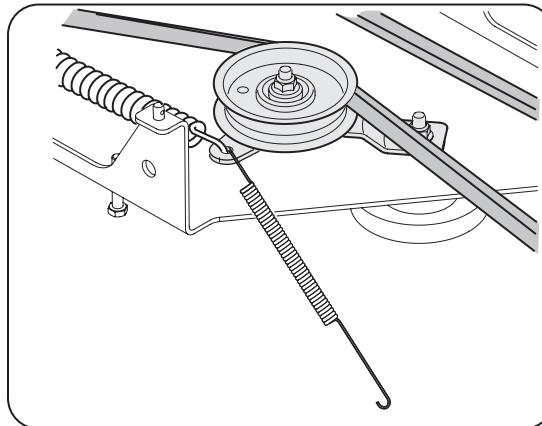
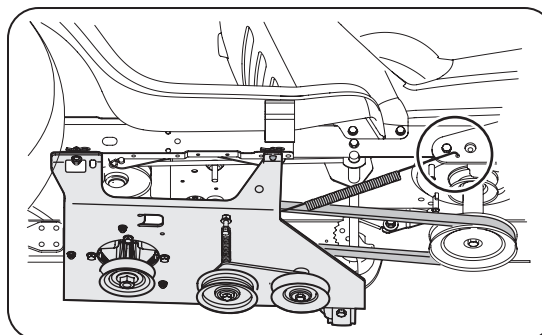

Figure 4-9
Figure 4-10
5. Attach the extension spring to the idler pulley. See figure 4-9. Connect the other end to tractor's frame rail. See Figure 4-10.